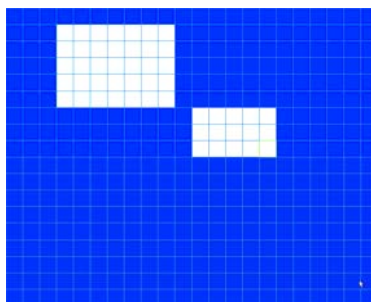

Figure 4-26
- z Region: Click select button, the interface is shown as in Figure 4-26. Here you can set motion detection zone. There are 396(PAL)/330(NTSC) small zones. Blue zone is the motion detection zone. White zone is the disarmed zone. System can only detect motion detect signal from the arm region. You can click Fn button to switch between the arm mode and disarm mode. In arm mode, you can click the direction buttons to move the green rectangle to set the motion detection zone. After you completed the setup, please click ENTER button to exit current setup. Do remember click save button to save current setup. If you click ESC button to exit the region setup interface system will not save your zone setup.
In Figure 4-26, you can left click mouse and then drag it to set a region for motion detection.